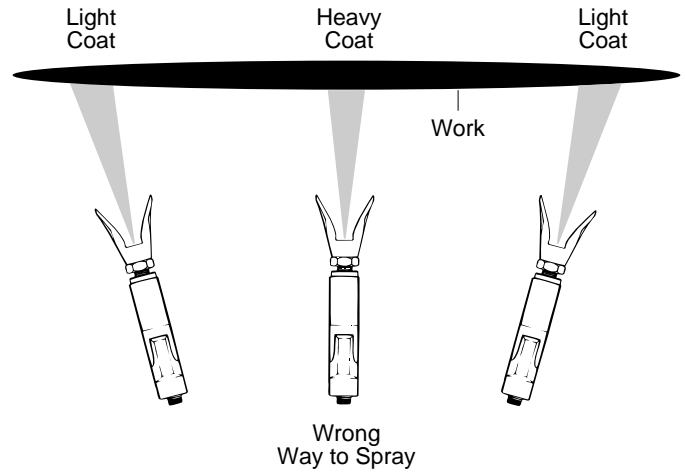
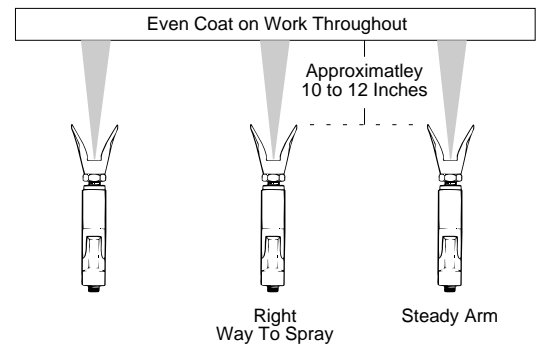

Figure 7. - Result of flexing wrist while spraying.
Figure 8. - Result of smooth arm stroke and steady, even speed while spraying.
5. Do not move the spray gun by flexing your wrist. The result of this is shown in Figure 7. Rather, move the spray gun with a smooth stroke of the entire arm and shoulder. Maintain the same arm speed all the way through the stroke. The result of this is shown in Figure 8.